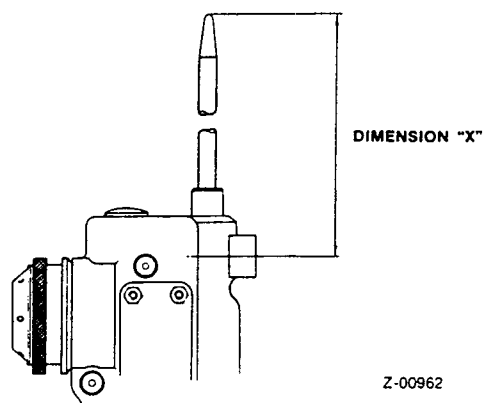

Fig 13 Correct assembly of shackle release plunger
- 18.19 With the time-release unit in the cocked condition and the shackle release plunger pushed down as far as it will go, check for correct assembly of the shackle release plunger and harness release plunger by measuring the distance from the centre line of the top mounting holes in the case, to the top of the shackle release plunger (fig 13): correct dimension should be listed in Table 4.
TABLE 4 INDICATOR TABLE FOR CHECKING CORRECT DIMENSION OF SHACKLE RELEASE PLUNGER, REFER TO FIG 13.